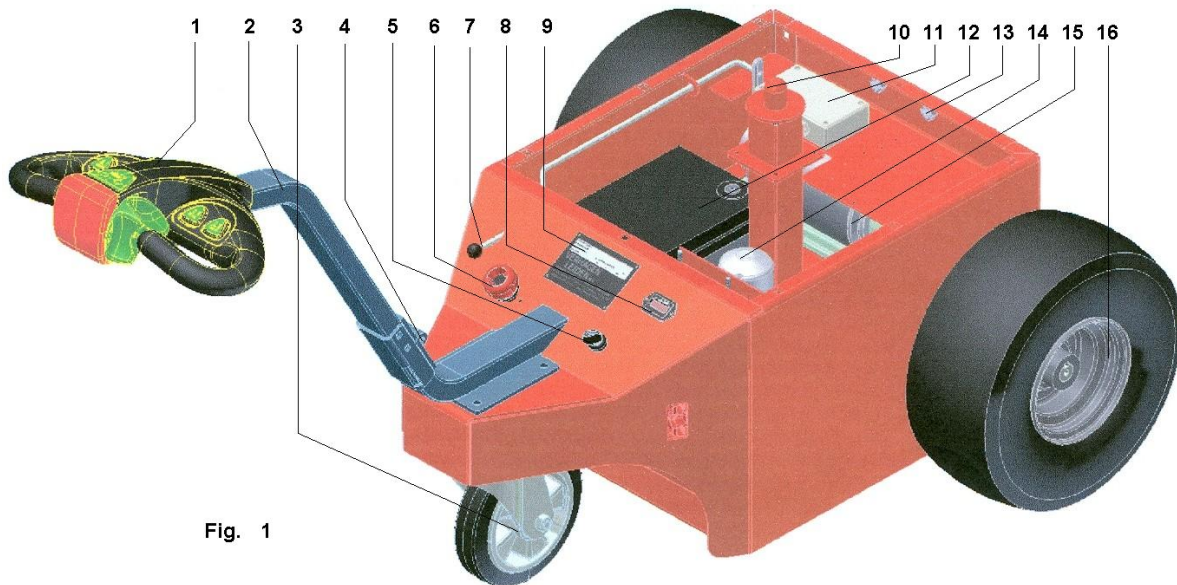

Fig. 1
5.3 Operation (see photo, fig. 1)
The ignition lock (5 fig. 1) is used to switch off the batteries, **always switch off the battery in case of maintenance to the Multi-Mover XL35.**